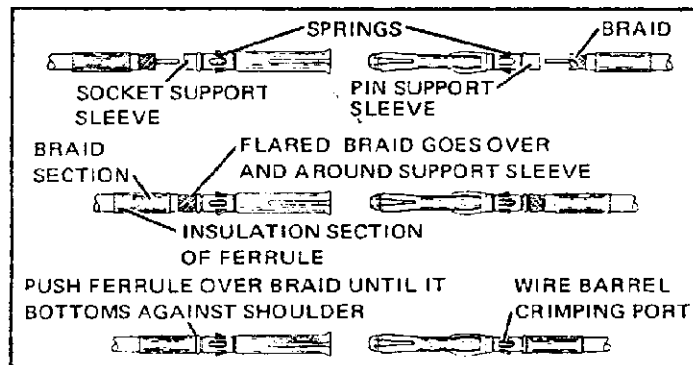

Figure 3
- (b) Flare braid, then insert conductor into contact as far as it will go. Braid passes over and around the support sleeve on contact. See Figure 3.
- (c) Slide ferrule over braid until ferrule bottoms against shoulder on contact. See Figure 3. Assembly can now be crimped.